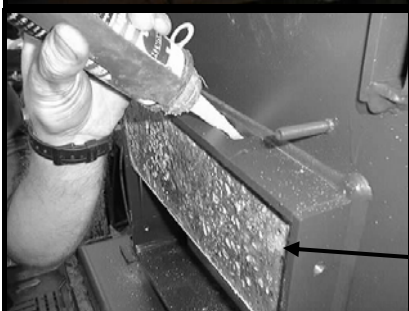

Fig. 3,5
12. Install the intake brick and insert the wood wedges under the intake brick at the sides of the firebox. The wood wedges can remain as they will burn away when the boiler is operating. Apply silicone to the air channel facing the air box. See Fig. 3,5. Apply silicone between the intake brick and the frame.